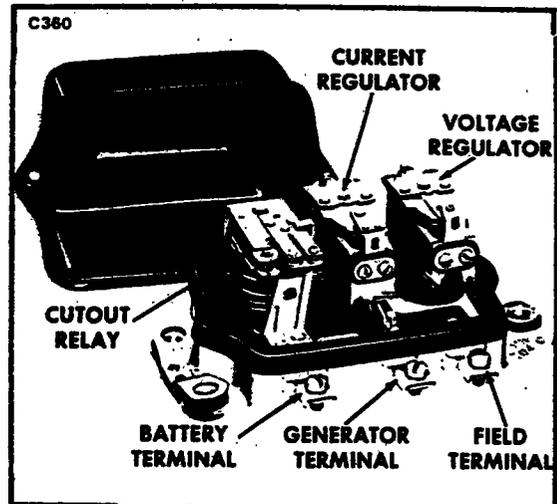

Figure 11-4. Current/Voltage Regulator
11-24. DESCRIPTION OF REGULATOR. The regulator shown in Figure 11-4 consists of a cutout relay, a voltage regulator and a current regulator unit. The cutout relay closes the generator to battery circuit when the generator voltage is sufficient to charge the battery, and it opens the circuit when the generator slows down or stops. The voltage regulator unit is a voltage-limiting device that prevents the system voltage from exceeding a specified maximum and thus protects the battery and other voltage-sensitive equipment. The current regulator unit is a current-limiting device that limits the generator output so as not to exceed its rated maximum.
a. The cutout relay (Refer to Figure 11-4.) has two windings, a series winding of a few turns of heavy wire and a shunt winding of many turns of fine wire (shown in dashed lines). The shunt winding is connected across the generator so that generator voltage is impressed upon it at all times. The series winding is connected in series with the charging circuit so that all generator output passes through it. The relay core and windings are assembled into a frame. A flat steel armature is attached to the frame by a flexible hinge so that it is centered just above the stationary contact points. When the generator is not operating, the armature contact points are held away from the stationary points by the tension of a flat spring riveted on the side of the armature.
a. The voltage regulator (Refer to Figure 11-4.) has two windings assembled on a single core, a shunt winding consisting of many turns of fine wire (shown in dashed lines) which is shunted across the generator, and a series winding of a few turns of relatively heavy wire which is connected in series with the generator field circuit when the regulator contactpoints are closed.
a. The current regulator (Refer to Figure 11-4.) has a series winding of a few turns of heavy wire which carries all generator output. The winding core is assembled into a frame. A flat steel armature is attached to the frame by a flexible hinge so that it is just above the core. The armature has a contact point which is just below a stationary contact point. When the current regulator is not operating, the tension of a spiral spring holds the armature away from the core so that the points are in contact. In this position the generator field circuit is completed to ground through the current regulator contact points in series with the voltage regulator contact points.